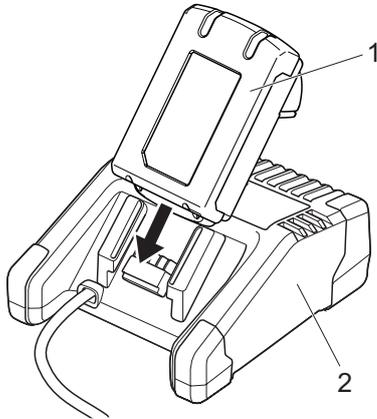

Fig. 10: Charging the battery
1. Connect the charger (Fig. 10/2) to the power supply.
2. Insert the battery (Fig. 10/1) into the charger.
3. Remove the battery (Fig. 10/1) from the charger as soon as it has reached the desired charge level.
4. Disconnect the charger (Fig. 10/2) from the power supply after charging.